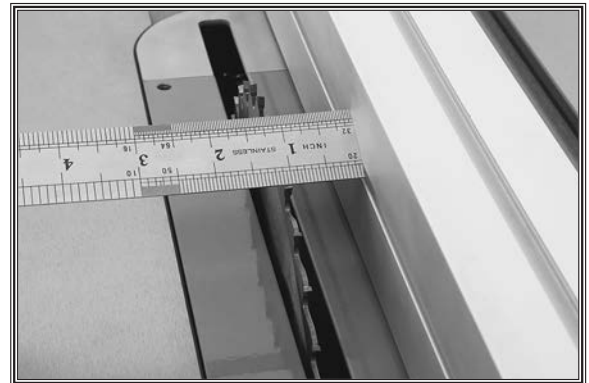

Figure 29. Checking calibration of fence scale.
24. Check fence scale calibration by moving fence to 1" mark on scale and measuring distance between blade tooth (see **Figure 29**) and fence.